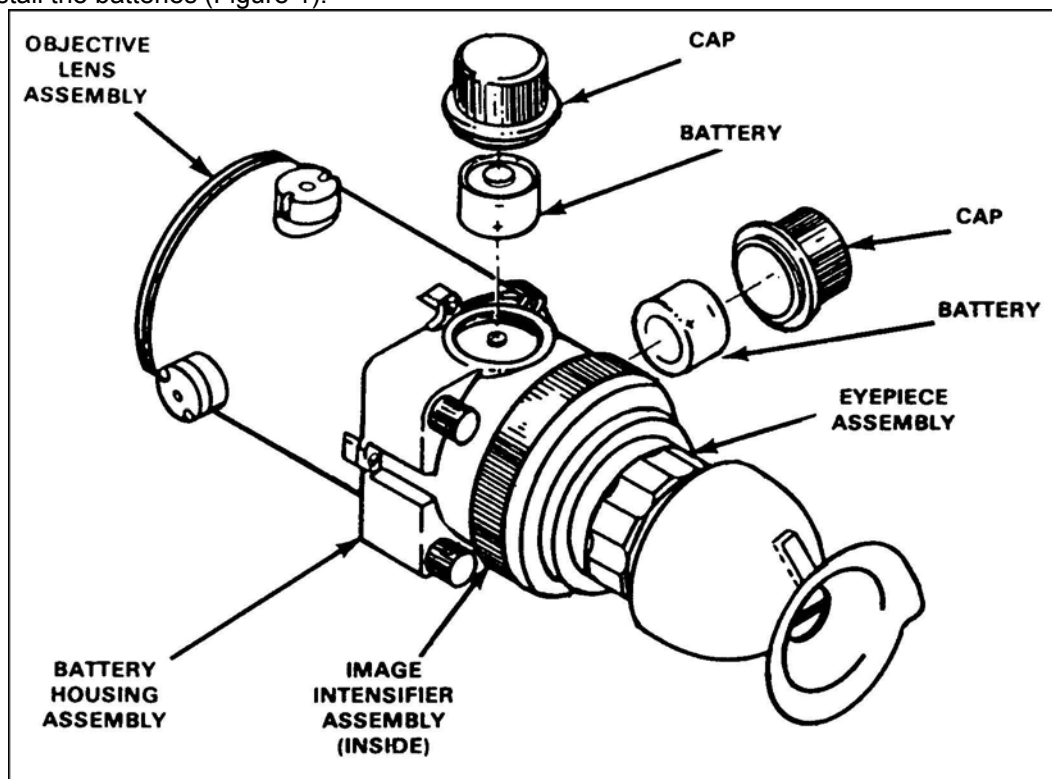

Figure 1. Battery emplacement.
2. Install the batteries (Figure 1).